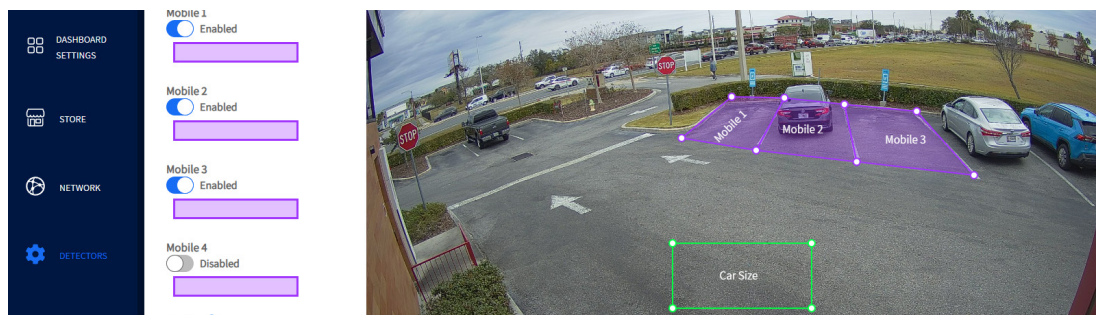
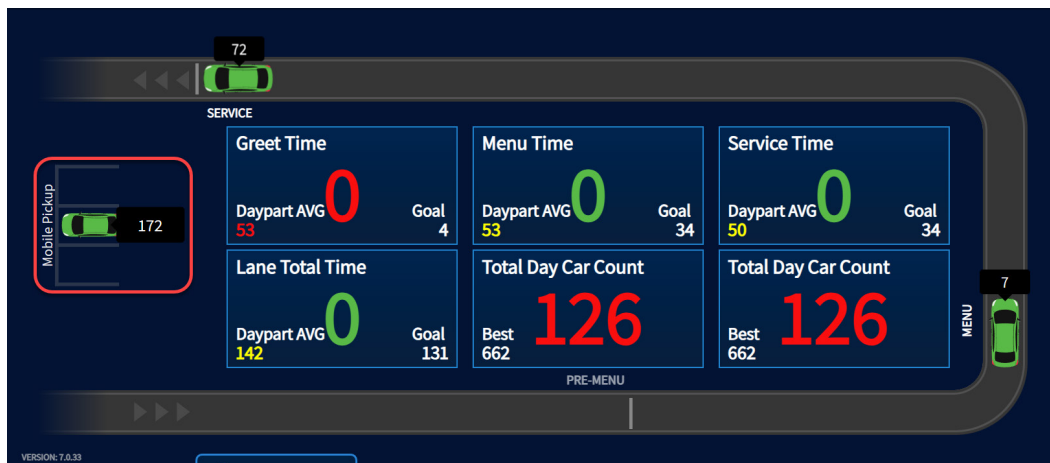
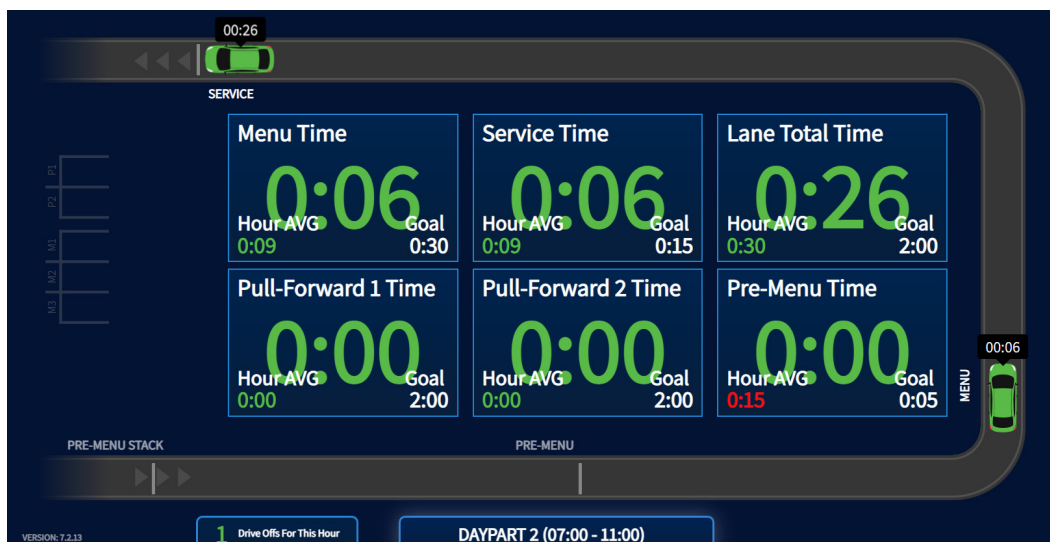

Fig. 25
Fig. 34
Fig. 35
8. Repeat the process for additional mobile spaces (up to four total per camera). Fig. 25 shows three mobile spaces configured. For easy identification, it is best practice to assign the space numbers in order (left to right here).
Use +ADD icon to add rows based on how many mobile spaces are used (maximum of four per camera). The example in Fig. 25 shows three mobile spaces which are all added here in Fig. 32.
4. Fig. 34 shows where the Mobile spaces are displayed on the dashboard. The camera view in Fig. 25 shows a vehicle in Mobile space 2, and it is reflected here on the dashboard. If Pull-Forward spaces are used, they will appear in the same area on the dashboard, see Fig. 35.